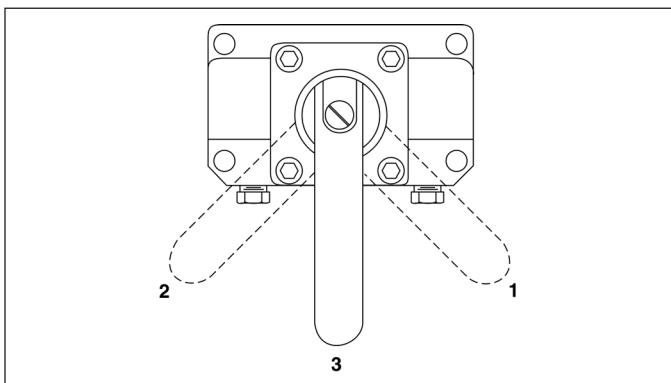

Figure 8
The pump control valve directs hydraulic fluid output or return from the hydraulic system components. These models have 3 way, 2 position valves. Valve positions are shown in Figure 8: (1)-Advance; (3)-Retract. To advance the cylinder, shift the valve to the advance position (1) and press the pendant switch.
PUJ 1400B/E and PUJ-1401B/E Models (Figure 8)
Control valves on PUJ-1400B/E and PUJ-1401B/E pumps are 4-way, 3-position, for use with double acting cylinders where advance and retract are hydraulically actuated. Valve positions are shown in Figure 8: 1-Advance; 2- Retract; 3- Neutral. In each position the cylinder movement is controlled by the pendant switch.